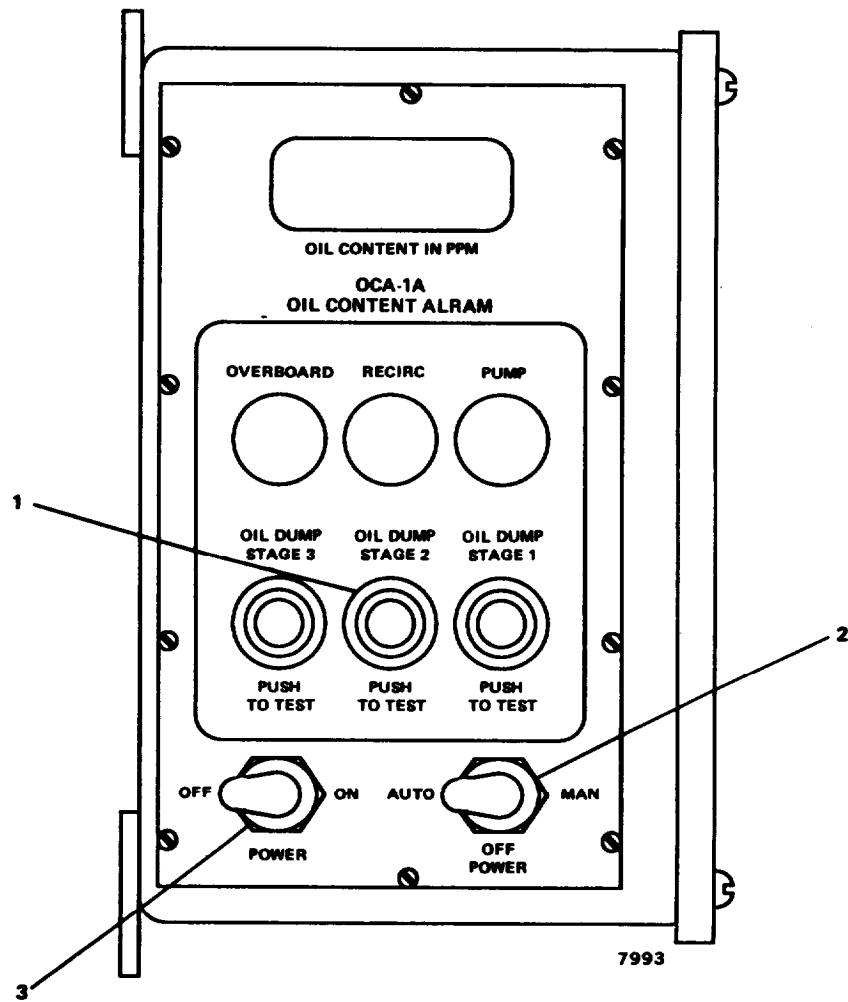
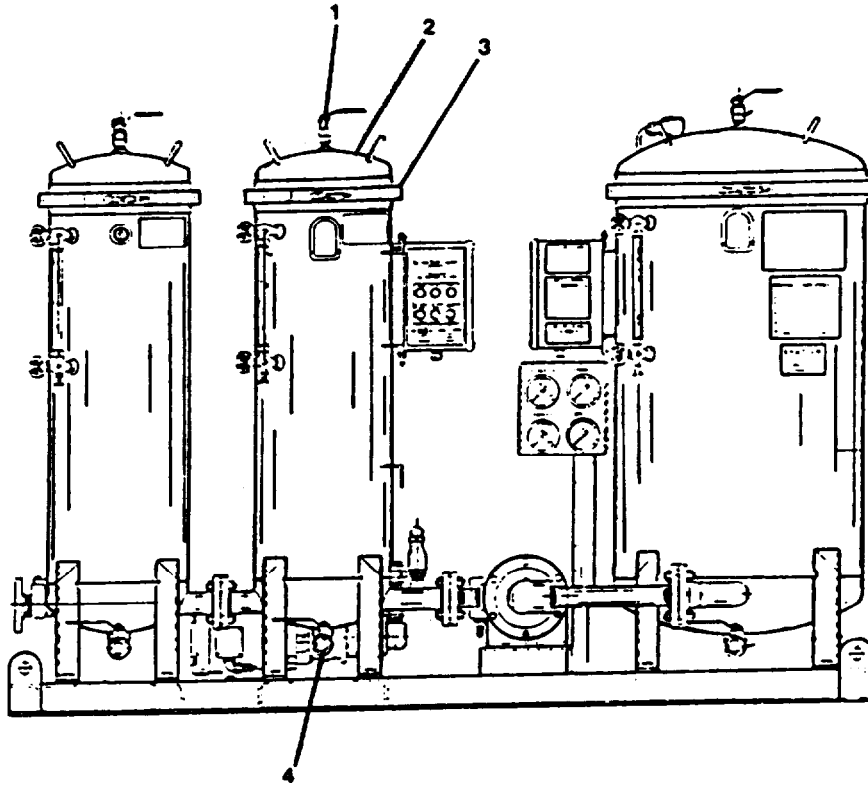

FIGURE 2-21. Control Module.
FIGURE 2-22. Oil/Water Separator.
- (1) Press OIL DUMP, Stage 2 button (1, FIGURE 2-21) on control module to drain oil from vessel.
- (2) When complete, turn PUMP selector switch (2) off.
- (3) Turn POWER SWITCH (3) OFF.
- (4) Open vent valve (1, FIGURE 2-22) on top of second stage vessel.
- (5) Open drain valve (4) on bottom of second stage vessel.
- (6) When drainage is complete, close vent valve (1) and drain valve (4).